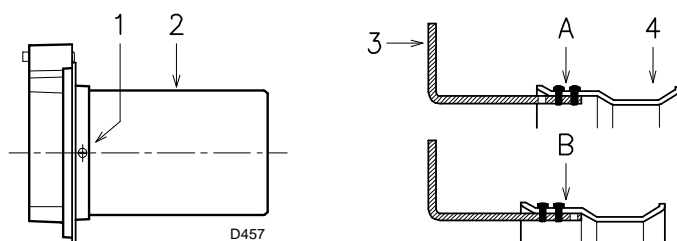

Fig. 10
- unscrew the screws 1)(Fig. 10) and disassemble the blast tube 2)(Fig. 10).
- Move the fixing of the rod 3)(Fig. 10) from position A to position B, thereby causing the shutter 4) to retract.